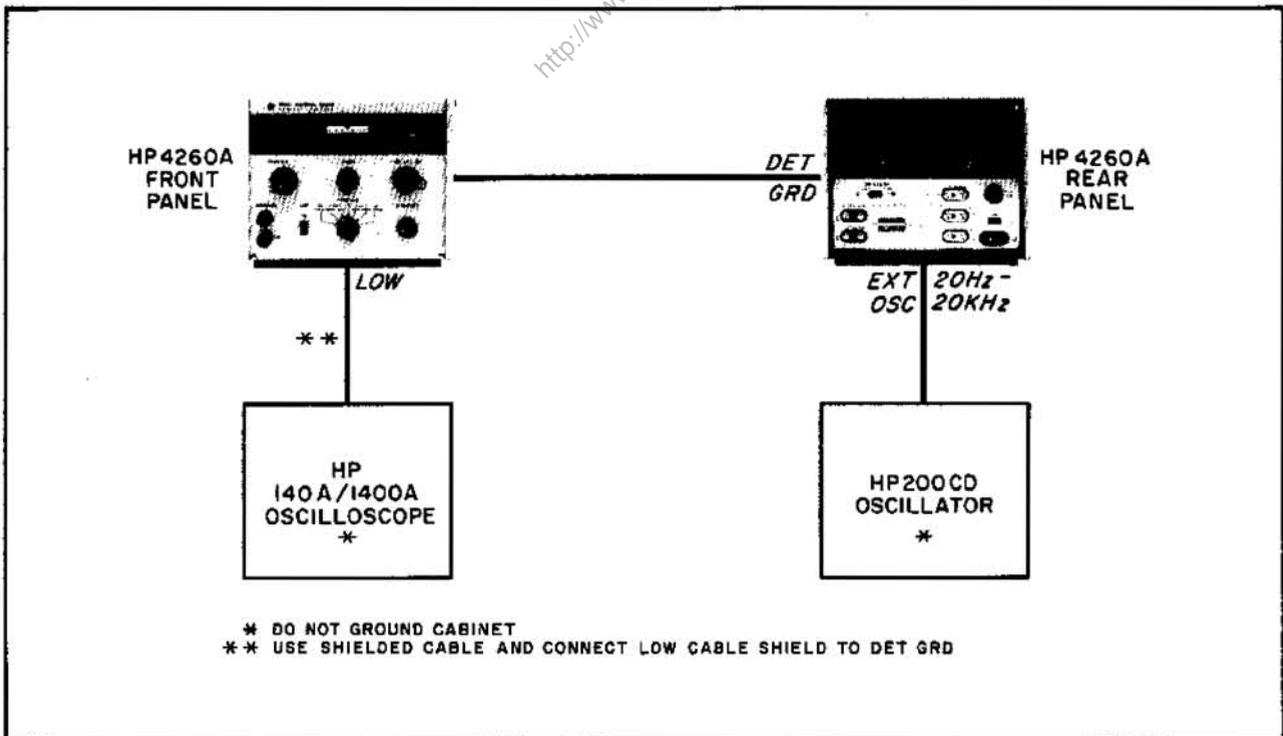

Figure 5-5. Test Setup for Adjustments
5-30. INTRODUCTION. The procedures in Paragraphs 5-31 through 5-38 outline checks and adjustments for the components in the bridge circuit. These include fixed 0.2 μ F capacitor C1, compensating capacitor C305, CRL resistor R3, trimmers C103, C104, C3, and accuracy of resistors in the RANGE switch. The test equipment setup is shown in Figure 5-5. These checks and adjustments should be performed in the order listed when a comprehensive over-all instrument checkout is desired. Test equipment for these checks is listed in Table 5-6.
5-31. C1 CHECK. To check fixed bridge capacitor C1, connect the instruments as shown in Figure 5-5.
a. Connect the test setup as shown in Figure 5-5.
a. Connect test equipment setup as shown in Figure 5-5.
- a. Connect test equipment as shown in Figure 5-5.
- a. Connect test equipment setup as shown in Figure 5-5.
- a. Connect test setup as shown in Figure 5-5.